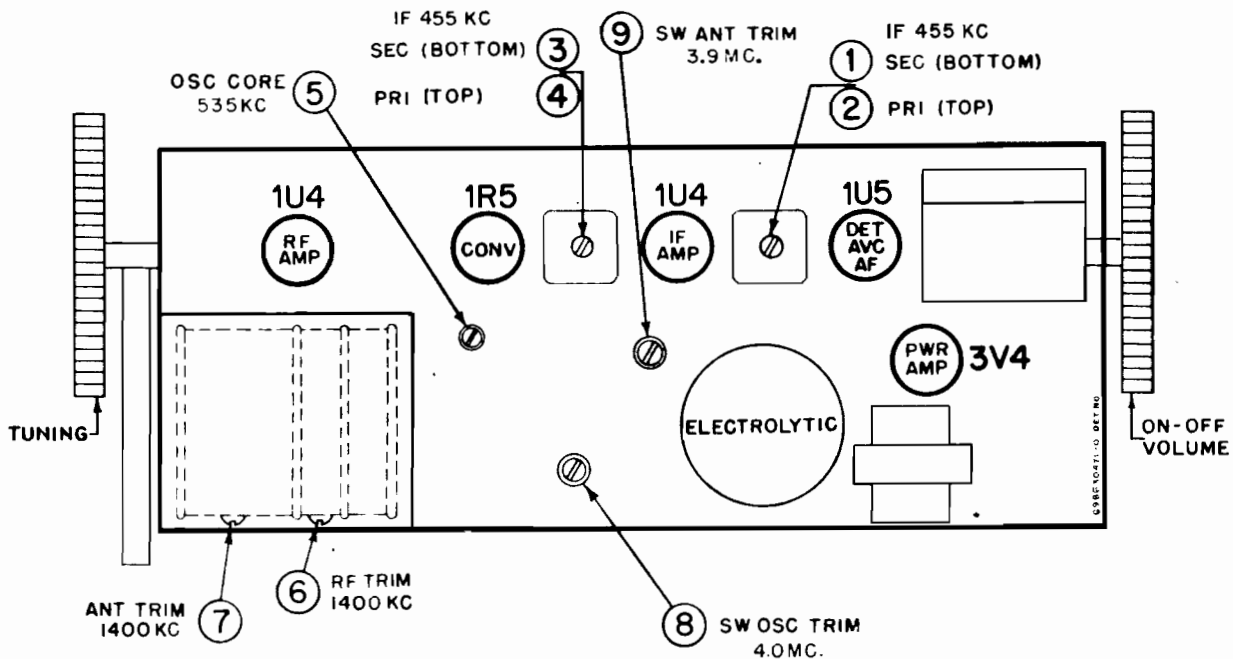

FIGURE 5. TUBE AND TRIMMER LOCATIONS
7. See Figure 5 for adjustment locations and the following chart for procedure.